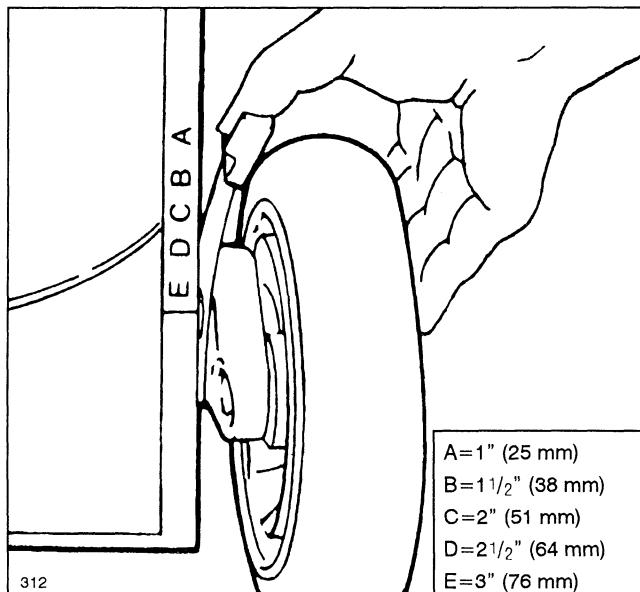

Figure 6
Five letters cast into the housing represent the height-of-cut settings (Fig. 6).
2. For easier adjustment, lift housing up so wheel is off ground. Do not put fingers under housing when lifting. Squeeze adjusting lever toward wheel and move to desired setting (Fig. 6). Ensure pin on adjusting lever engages notch in housing. Adjust all wheels to the same setting.